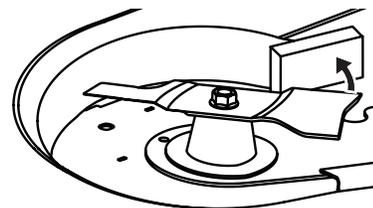

Figure 55
1. Secure the blade from turning counterclockwise during service by placing a block of wood between the blade and the deck housing (Figure 55), or wrap a rag around one end of the blade and wear heavy gloves to grasp the blade firmly.